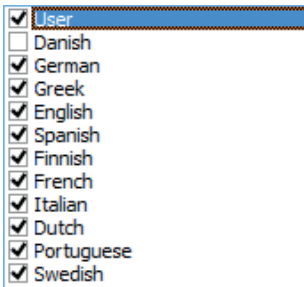

Figure 119 Languages list
- ▶ Select the wished language(s) (1) in the list (> Figure 119).
- ▶ Select the type of formatting to apply (2): bold, italic, underline, lowercase conversion, uppercase conversion, font color.
- ▶ Validate with the OK button (3).